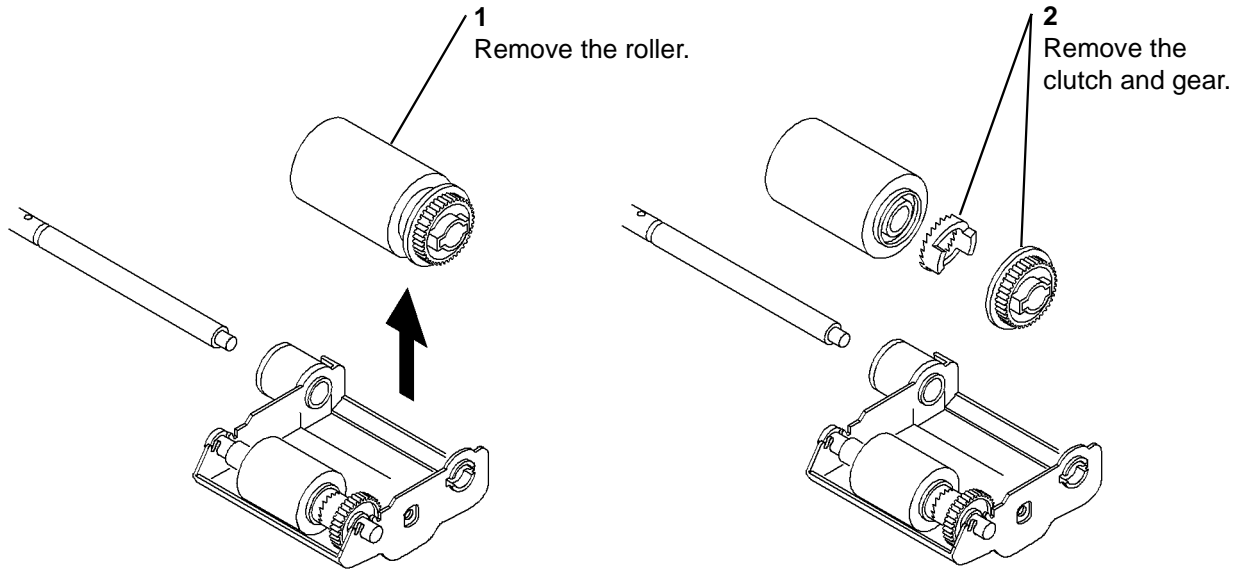

Figure 3 Pick-up roller assembly
4. Remove the pick-up roller assembly, Figure 3.